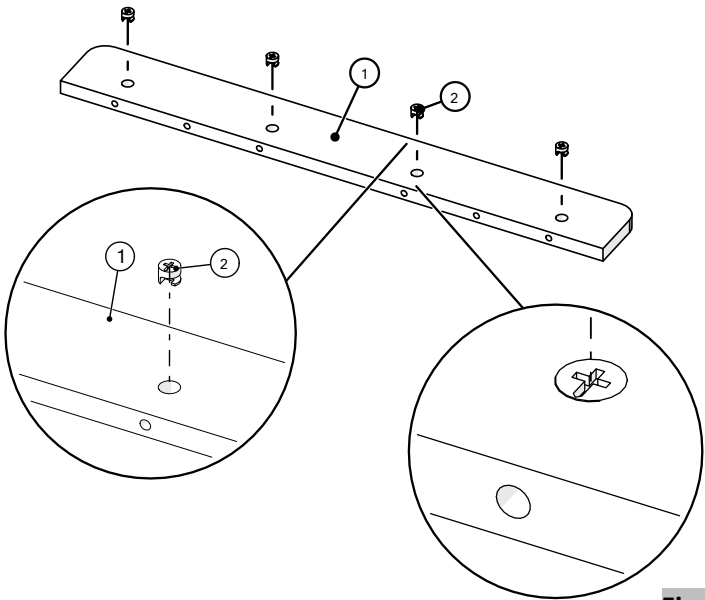

Figure 1
2. Insert the CamFix into the holes of the HAT skirt. Ensure the arrow of the CamFix is pointing downward, (Figure 1).